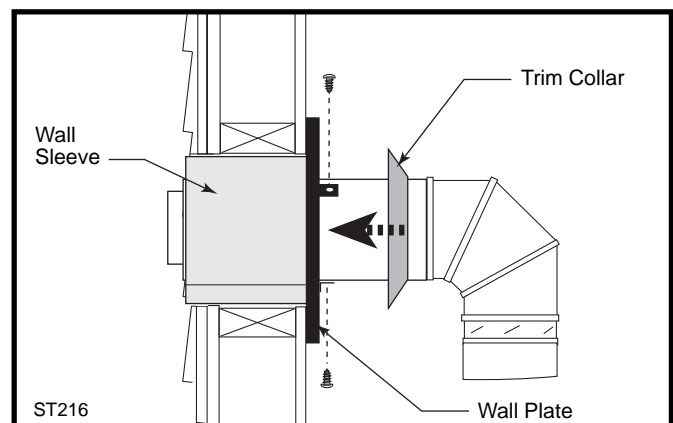

Fig. 32 Install the horizontal pipe and wall plate parts.
9. Seal the ends and connect the horizontal pipe to the elbow. Fasten the wall plate to the pipe with three sheet metal screws. Slide the trim collar up against the wall plate to cover the screws. (Fig. 32)